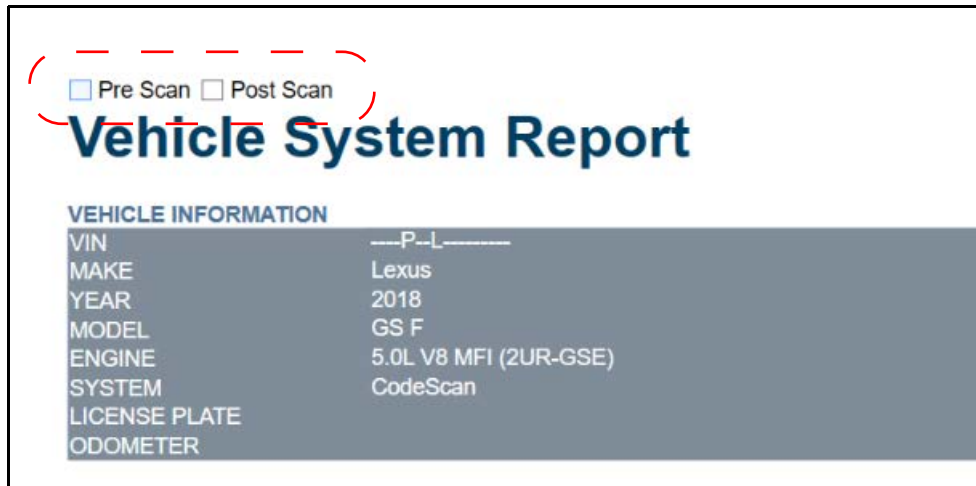

Figure 13-8
1. Double-click the code scan .XML file from the file list to open the Vehicle System Report (Figure 13-8) in the Code Scan Viewer.
2. Hover the cursor over the area shown in Figure 13-8, and select the desired option to add to the report header.